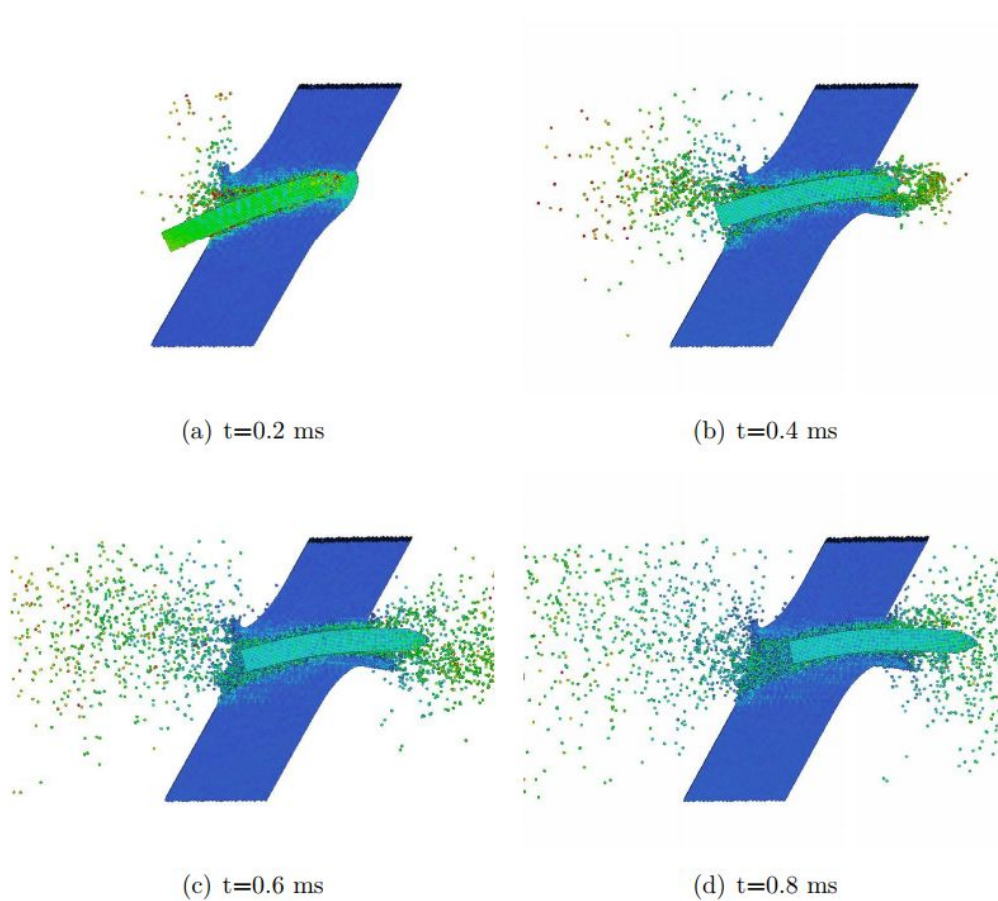

图 5.34: **Penetration process**
1. Press the work button on the toolbar to view the tip of the projectile, as shown in Figure 5.34.